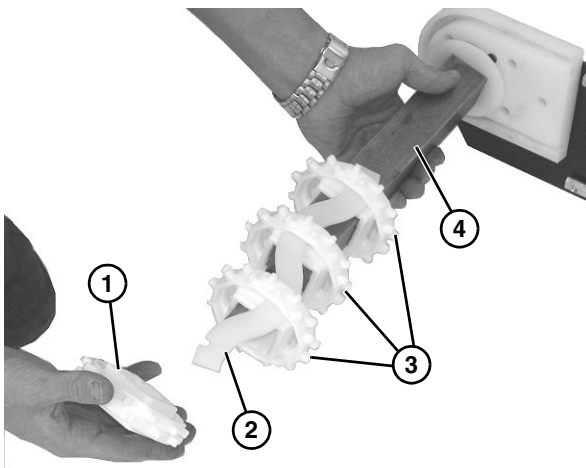

Figure 44
10. Slide entire sprocket assembly slightly outward, and remove the first sprocket (**Figure 44, item 1**) off the drive spindle and alignment bar (**Figure 44, item 2**).
11. Remove remaining sprockets (**Figure 44, item 3**) off the alignment bar as you slide entire assembly off the drive spindle (**Figure 44, item 4**).